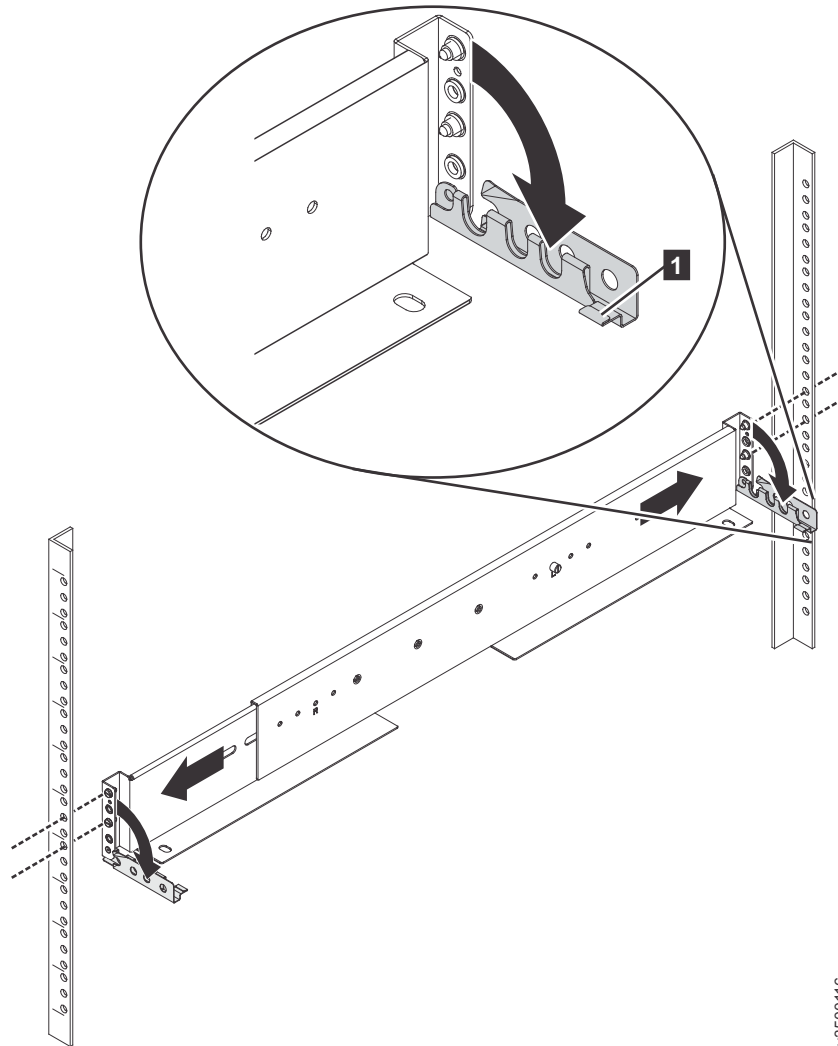

Figure 11. Opening the hinge brackets
6. At each end of the rail, grasp the tab **1** and pull *firmly* to open the hinge bracket (see Figure 11).